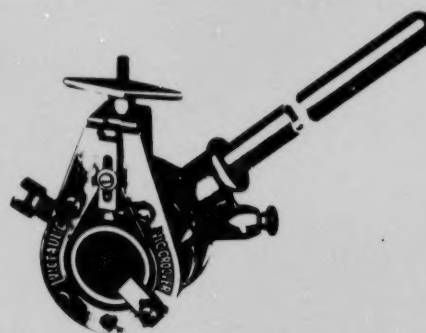

Figure 1-79. Victaulic Pipe Groover
a) Victaulic pipe groovers are available in both manually operated and power-operated types. The lighter models are portable; the heavier ones are more suitable for shop production. Groovers are available for cutting grooves in pipes from NPS $\frac{1}{4}$ to NPS 24. Shown in Figure 1-79 is one type of Victaulic groover, known as the Individual Vic Groover, which is available for pipes from NPS $\frac{1}{4}$ to NPS 8 with an adjustable model for NPS 4 to NPS 6 steel pipe.